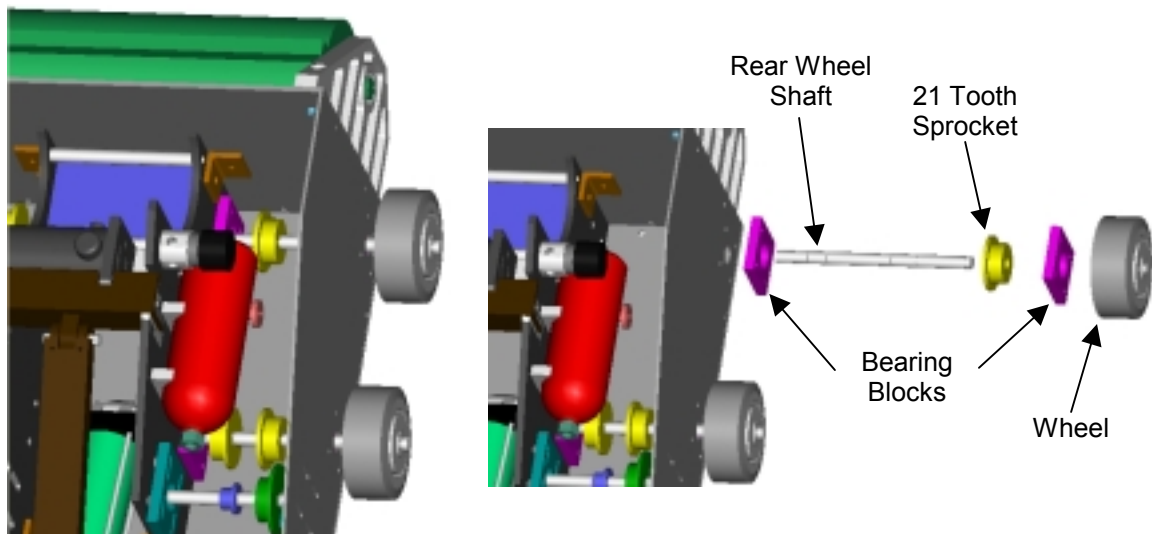

Figure 6.6 – Rear Wheel Shaft
The rear wheel shaft holds and spins the rear wheel. The shaft consists of a 21 tooth sprocket attached to the shaft with a key, set screws and E-rings. The wheel is attached to the shaft with a key and E-rings. The shaft transmits the power from the front wheel shaft to rear wheel shaft via a chain as seen in Figure 6.6.
2. Insert a key (BOM #1.7) into the wheel key slot as shown in Figure 6.6.
3. Place the wheel on the shaft as seen in Figure 6.6. It may be necessary to use a hammer or press.
6. Place the sprocket on the shaft as seen in Figure 6.6.